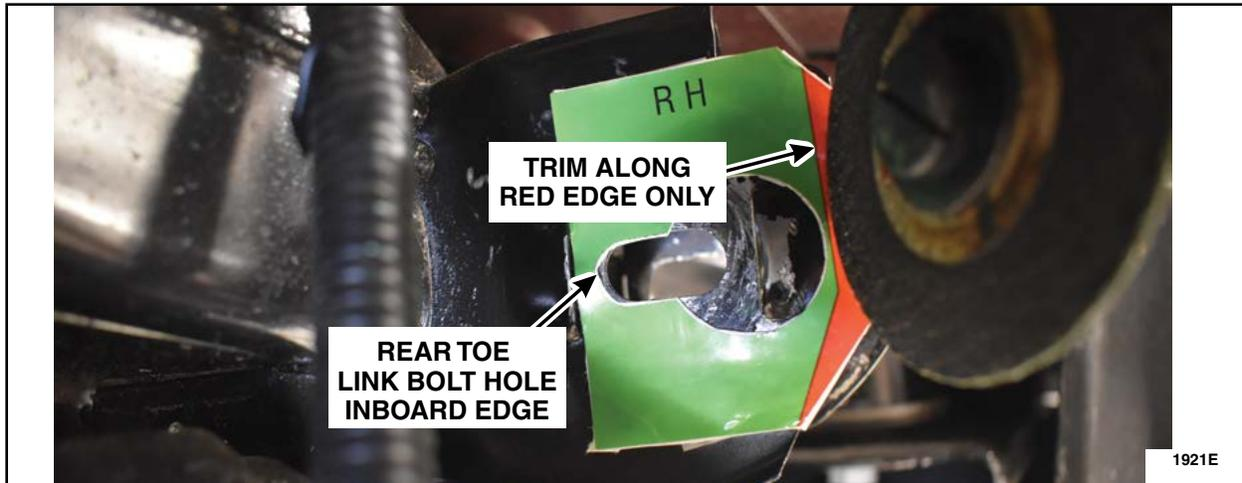

FIGURE 5
8. Using a suitable cut off wheel, remove the portion of the tow link bracket in the red area of the cut template sticker. See Figures 5 and 6.